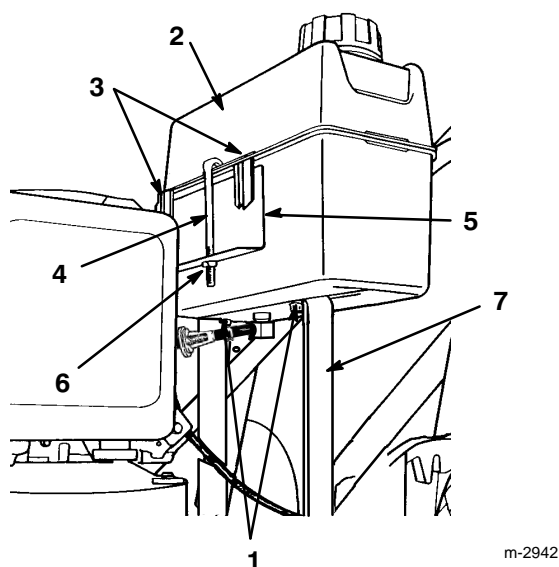

Figure 3
2. Hook plastic clips on front of gas tank onto gas tank bracket (Fig. 3).
3. Secure gas tank to tank base with the (2) self-tapping screws (Fig. 3). Do not overtighten screws.
4. Hook gas tank retainer onto rear of gas tank and slide end of retainer into hole in tank bracket. Secure retainer to tank bracket with locknut (Fig. 3). Do not overtighten locknut.